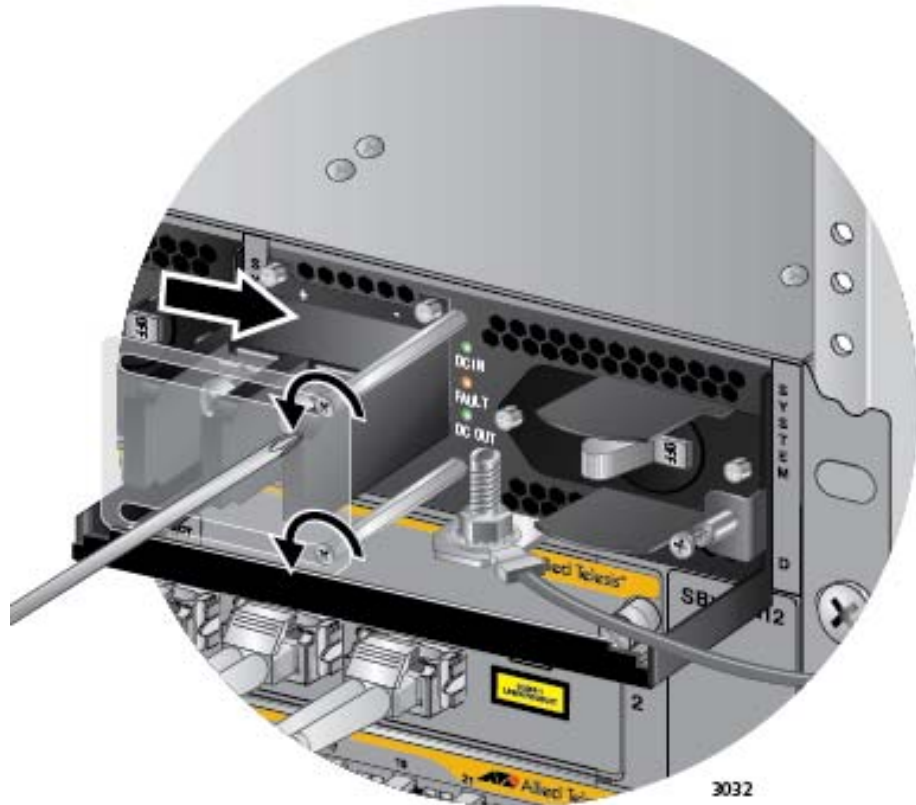

Figure 132. Opening the Plastic Cover
4. Use a #1 Phillips-head screwdriver to loosen the two screws on the plastic cover over the positive and negative terminals on the power supply and slide the cover to the right, as shown in Figure 132 on page 206. You may need to lift the locking handle slightly to access the bottom screw.
2. Use a #1 Phillips-head screwdriver to loosen the two screws on the plastic cover over the positive and negative terminals on the power supply and slide the cover to the right, as shown in Figure 132 on page 206. You may need to lift the locking handle slightly to access the bottom screw.